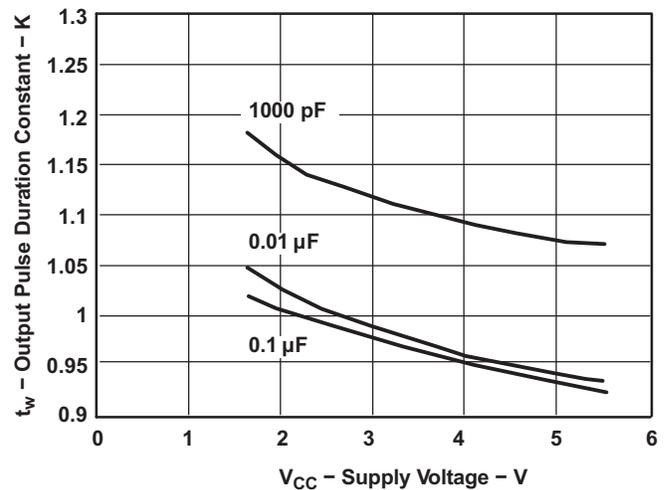

Figure 5. Output Pulse Duration Constant vs Supply Voltage
- The resistor value is calculated from the pulse length equation, $t_w = K \times R \times C$. By rearranging terms, $R = t_w / (K \times C)$. K is found in Figure 5 to be 0.925 for $C = 0.1 \mu\text{F}$ and $V_{\text{CC}} = 5 \text{ V}$. Since the pulse width is a range from 1 ms to 25 ms, a range of R values will be given to match. $10.8 \text{ k}\Omega < R < 270 \text{ k}\Omega$. 100 k Ω is selected because it is already on our bill of materials from the pull-up resistor and will result in an output pulse of 9.25 ms.
- The resistor value is calculated from the pulse length equation, $t_w = K \times R \times C$. By rearranging terms, $R = t_w / (K \times C)$. K is found in Figure 5 to be 0.925 for $C = 0.1 \mu\text{F}$ and $V_{CC} = 5 \text{ V}$. Since the pulse width is a range from 1 ms to 2 ms, a range of R values will be given to match. $10.8 \text{ k}\Omega < R < 21.6 \text{ k}\Omega$. 12 k Ω is selected because it is a standard 5% resistor value and yield a pulse length of 1.11 ms.